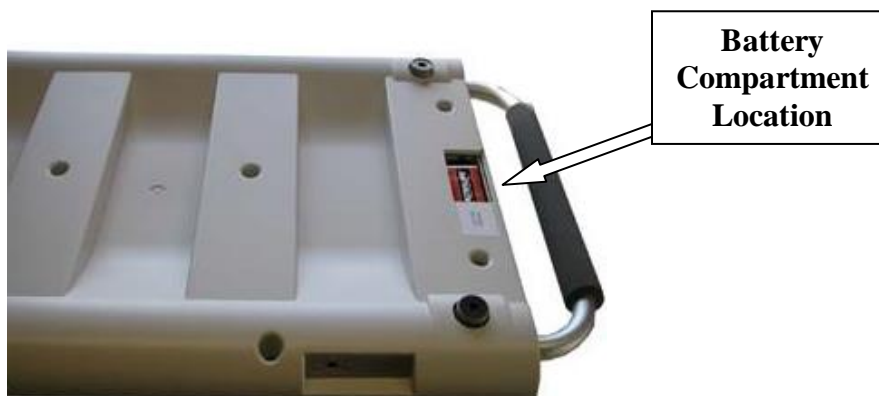

Figure 3: Battery Compartment Location
STEP 2: Slide the battery compartment cover open as the arrow on cover indicates (Figure 3).